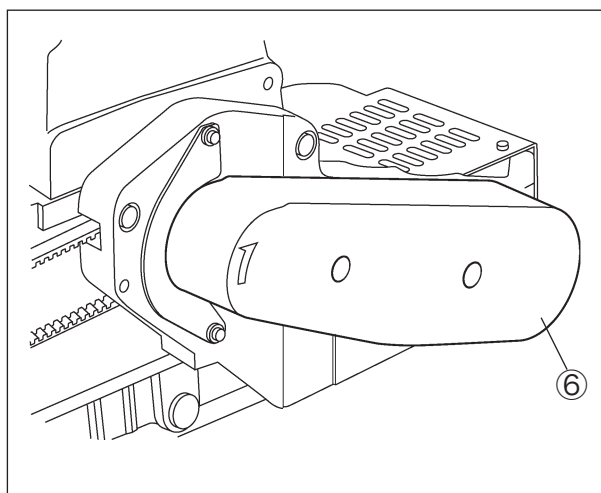

Fig. 8-9
- (3) Reset the belt cover ⑥ .(Fig. 8-9)